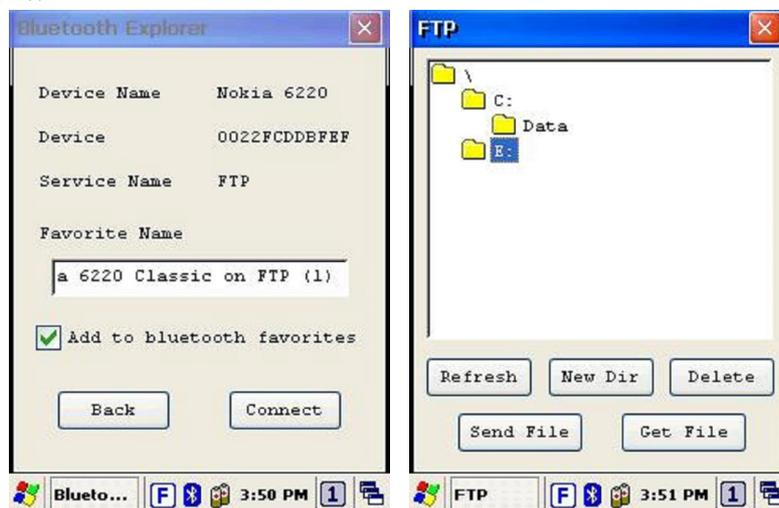

Figure 3-28 Bluetooth File Transfer-2
12. After checking pin code with the connect device. PT90 will enter FTP mode like *Figure 3-28*.